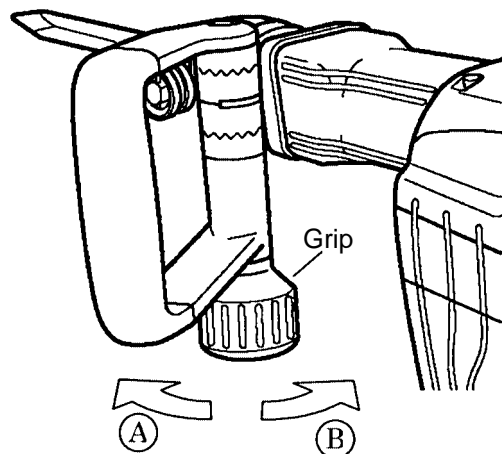

Fig. 12
The side handle can be adjusted by 360° rotation and also allows operation from front to rear. Loosen the handle by turning the grip in (A) direction and adjust the handle to a convenient position. Turn the grip in (B) direction to fix the side handle. (Fig. 12)